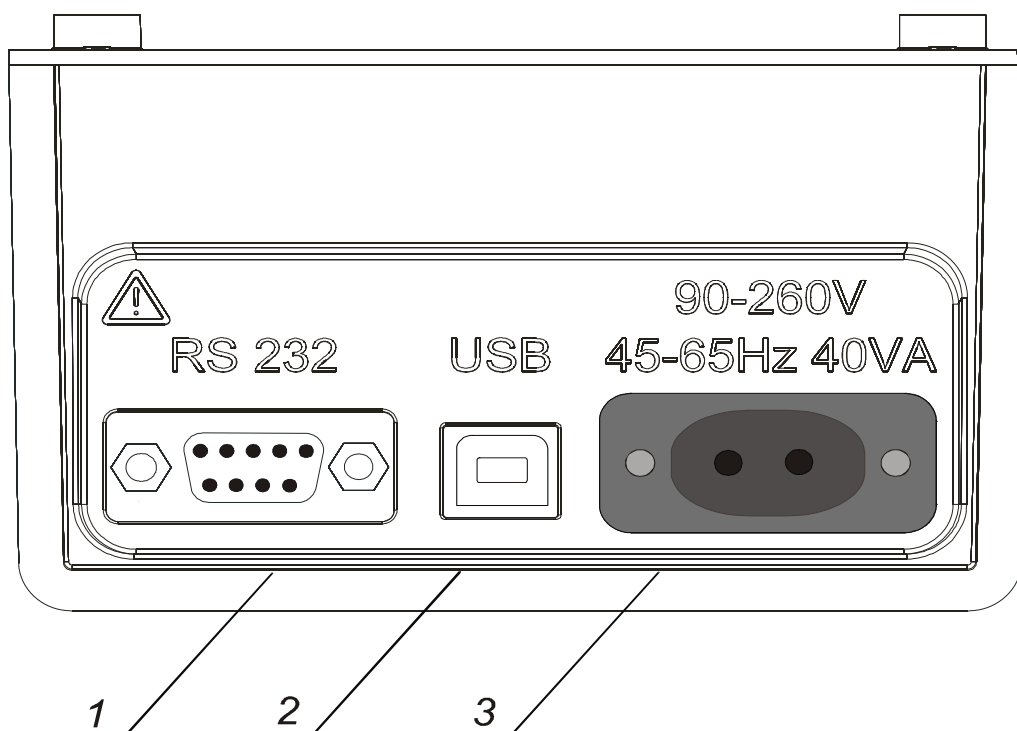

Fig. 3. Communication and Mains connector
- Mains supply cable connection to the mains socket and communication socket (USB and RS232) (**Fig. 3**).